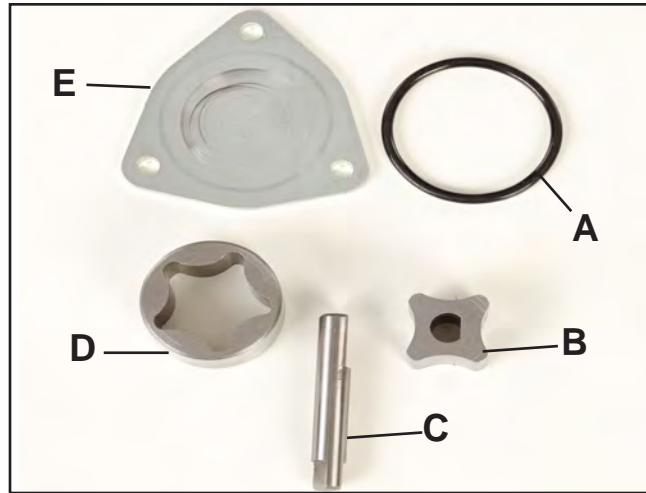

Figure 23
1. Inspect the gerotor inner and outer for damage; chips, scuffs or broken gear (Figure 23).